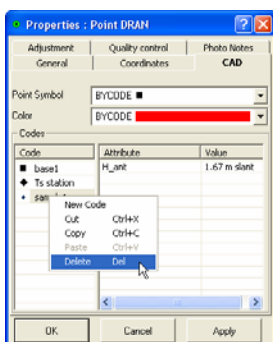

Figure 5-59. Delete Code from Point
- To delete a code from being used in the point, right-click in the left panel and click **Delete** (Figure 5-59 on page 5-40). Any attributes associated with the code are also deleted from the point.